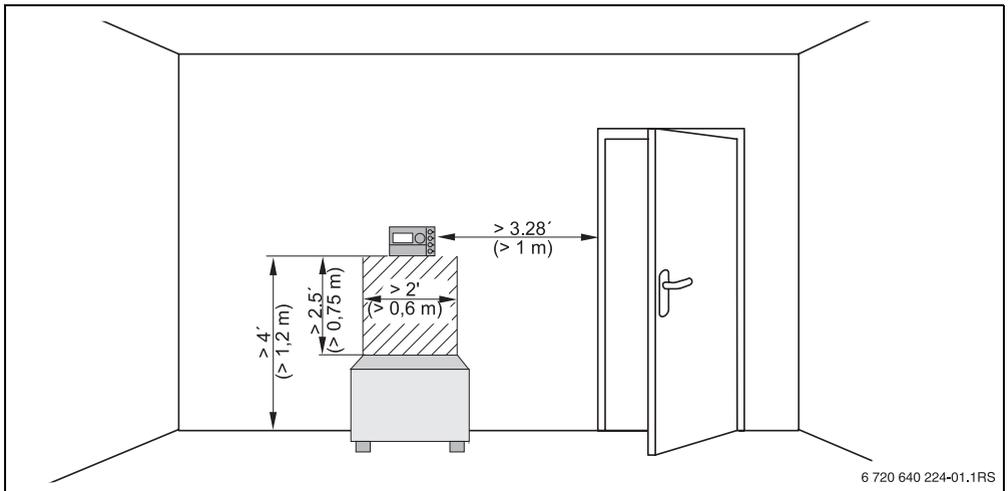

Fig. 1 Minimum clearances for mounting in a reference room
- Installation on an internal wall (→ Fig. 1).
- Allow clearance below the user interface (→ Fig. 1, shaded area) (to ensure correct temperature measurement).